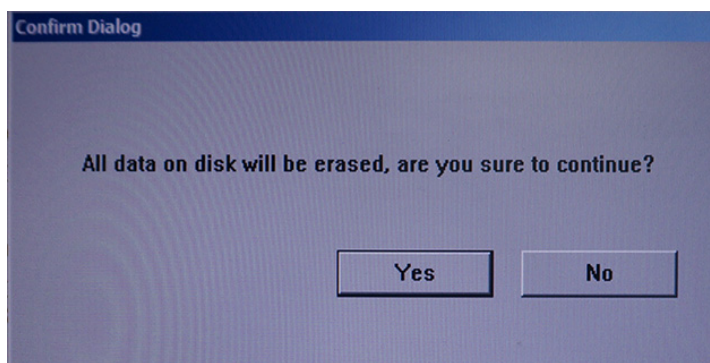

Figure 8-18. Disk selection confirmation (2)
- If you select [d], please follow Figure 8-18